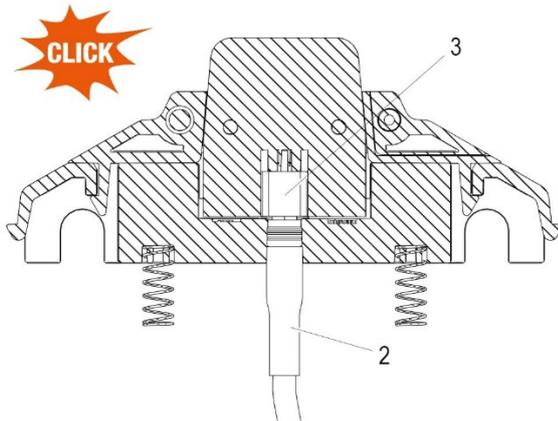

Fig. 181: Click in connector
→ The data cable connector (2) must audibly click into the circuit board connector (3) (see Fig. 181).